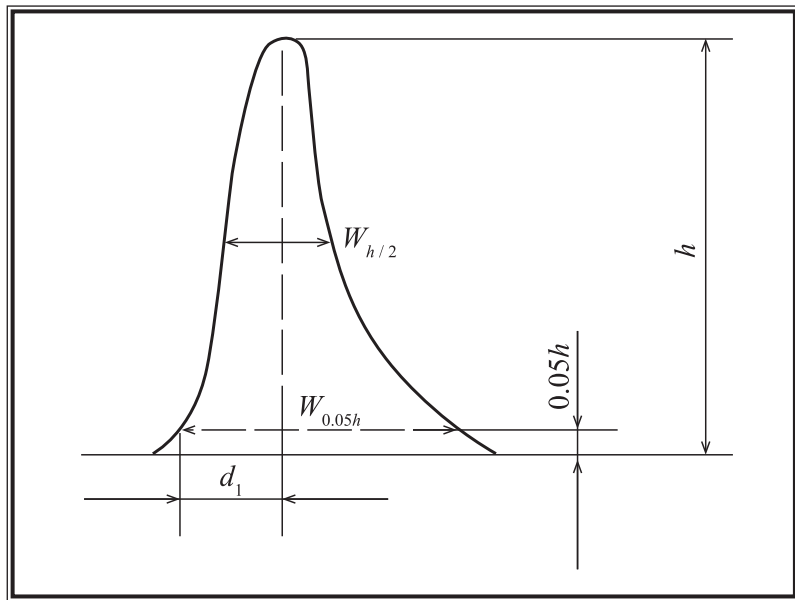

Figure 2 Parameters for calculation of tailing factor (T)
- (d) **Tailing factor (T)** – It is necessary to inspect the *T* value (Fig. 2) of the peak, especially when using the peak height method. It should comply with the requirement specified in the individual monograph. The *T* value is calculated by using the following equation –